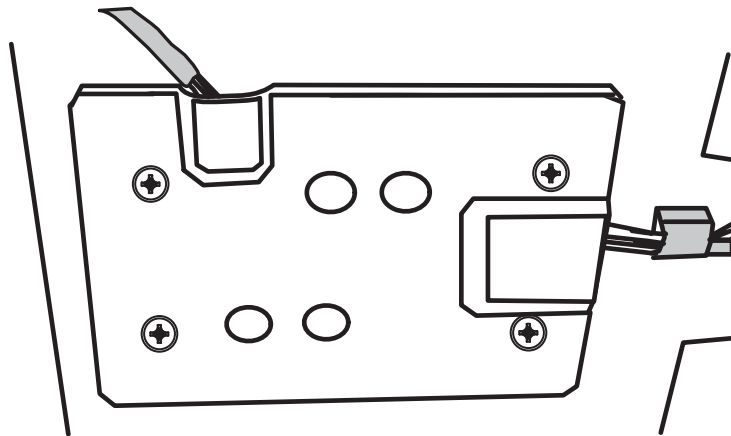

Figure 3–16: Control panel board cover plate
5. From inside the library, remove the four screws securing the control panel board cover plate and then remove the control panel board cover plate (see Figure 3–16).
6. Disconnect the white cable(s) at J15 (upper) and/or J18 (lower) locations on the control panel board (see Figure 3–15).